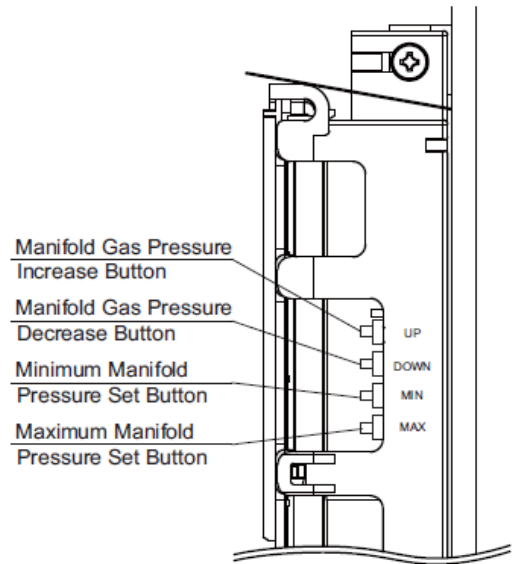

FIGURE 10
- 9) Once the heater has ignited and has begun to run continuously, locate the manifold adjustment buttons on the right side of the circuit board (Figure 10).